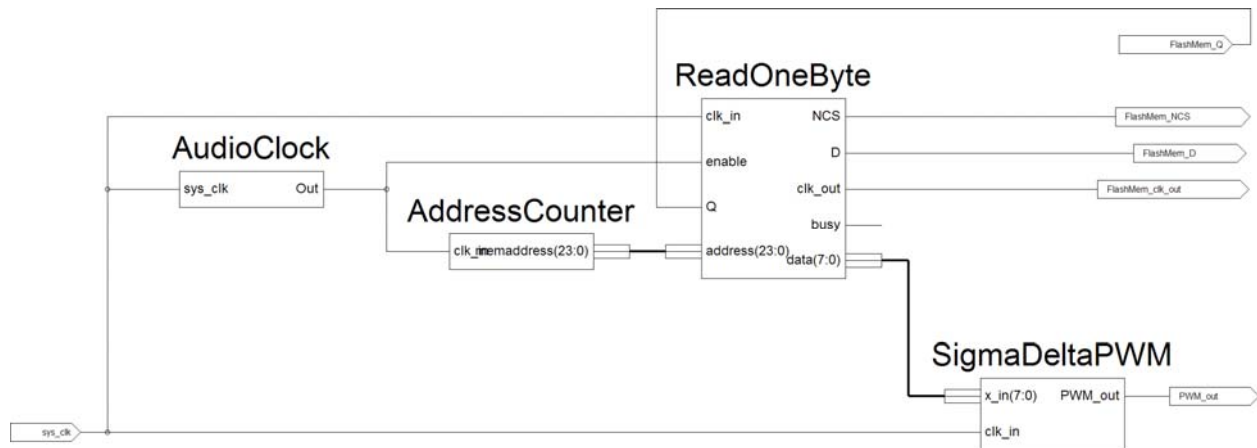

Figure 14.4.2. Complete 8-bit audio player diagram.
- The 44.1 kHz audio clock module, named *AudioClock* in Figure 14.4.2., provides the trigger signal for reading the audio data from the flash memory modules; the trigger signal also increments the address counter.